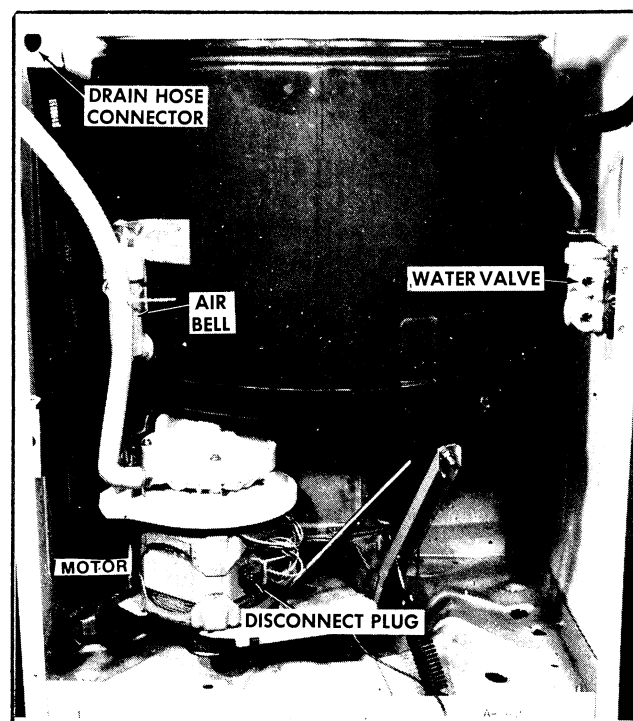

Figure 3
- a. The Air Bell, see *Figure 3*.